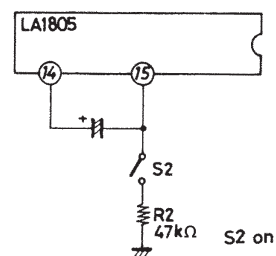

Figure 2 Forced Monaural Mode Setting Method
(2) Connect pin 15 to GND through a resistor of 47kΩ. (Turn ON the SW2 in Figure 2.)